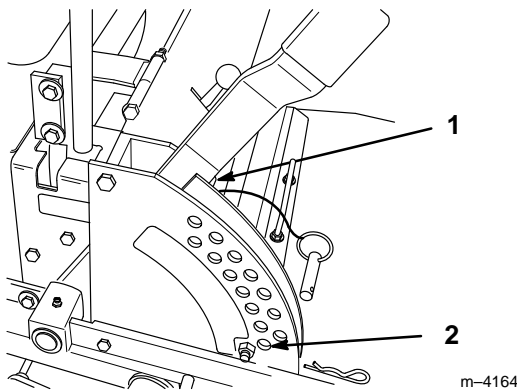

Figure 45
2. Check tire pressure of all four (4) tires. If needed, adjust to 13 psi (90 kPa)
4. Raise the deck to the transport position and take all force off of the two large deck lift springs by loosening nut in front of each spring (Fig. 45).
5. Place two 1-1/2" (38 mm) thick blocks under rear left and right lower edge of mower. Place one 2" (51 mm) block under front center lower edge of mower. Lower mower to the 1-1/2" (38 mm) height-of-cut position (Fig. 45).
12. Raise deck lift lever to the transport position, (Fig. 45).